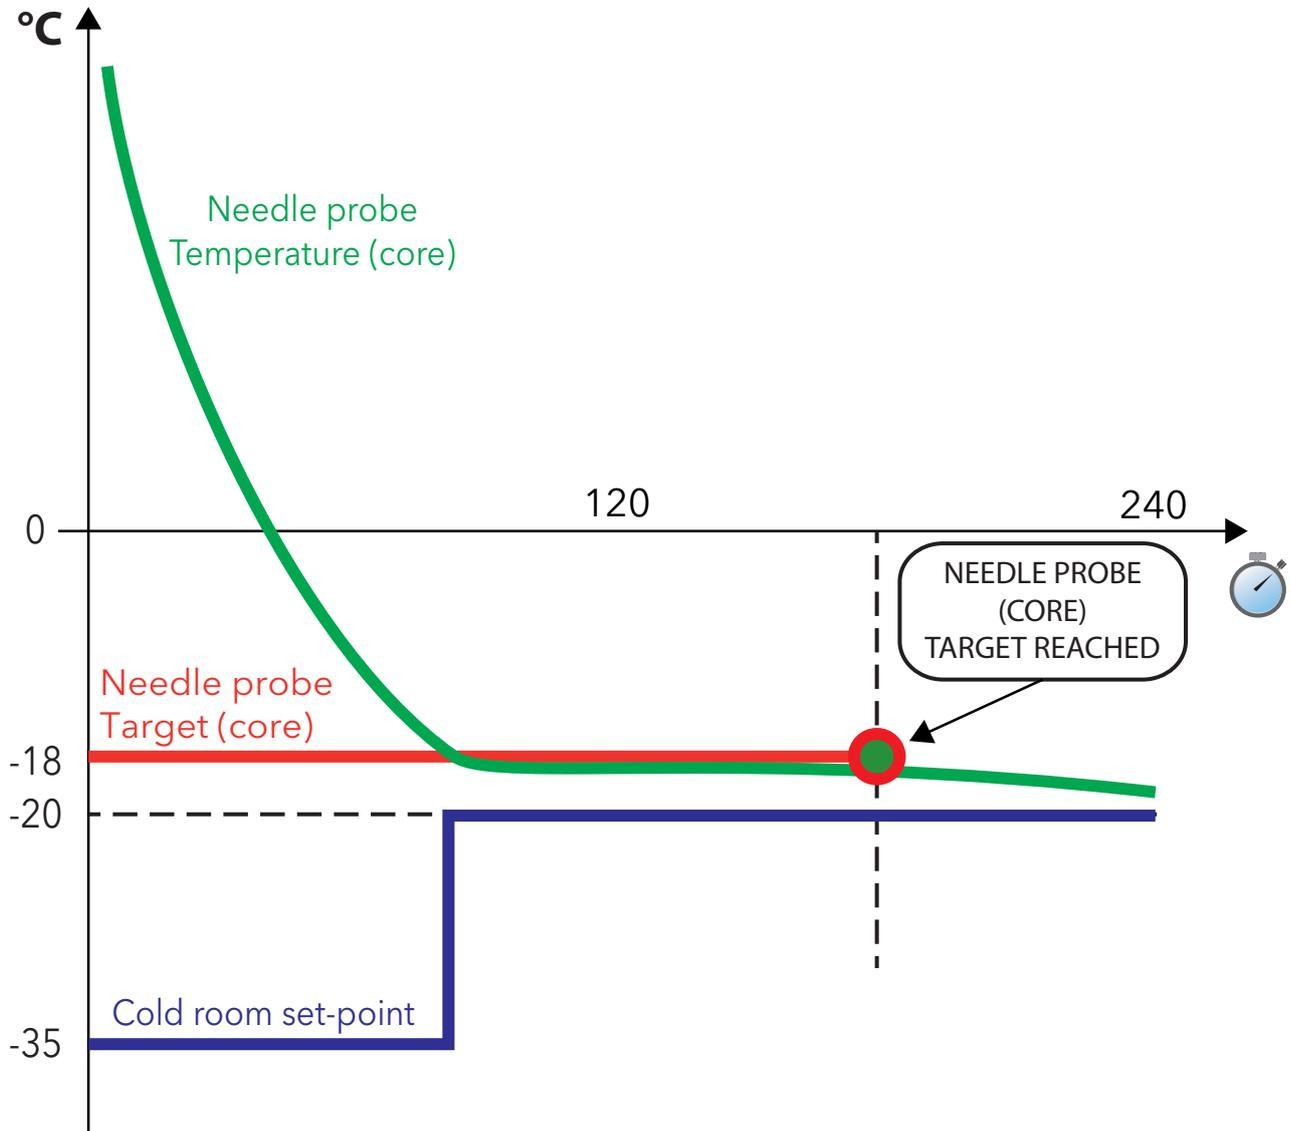

Fig. 15. NEGATIVE program with HARD blast chill mode
- hard blast chill mode (**Fig. 15 on page 35**);
NOTE: The numeric values shown in **Fig. 15 on page 35** are the default values.